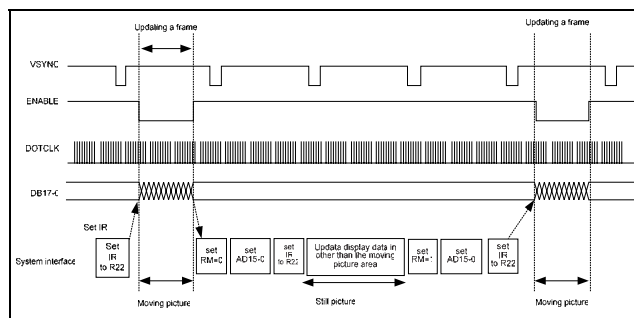

Figure 7-17
**Figure 7-17** illustrates the timing diagram when displaying a moving picture through the RGB interface and rewriting data in the still picture GRAM area through the system interface.